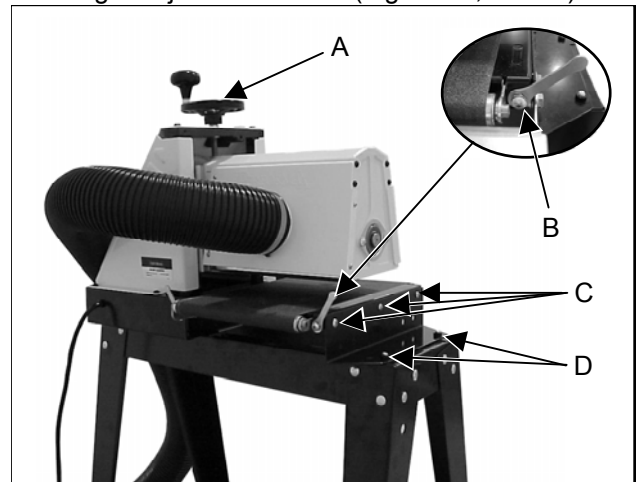

Figure 19
2. Raise the drum to its highest position using the handwheel (Figure 19, Item A).
3. Remove the belt tension by loosening both take-up nuts (Figure 19, Item B).
4. Unscrew the three screws (Figure 19, Item C) that attach the conveyor to the bracket.
5. Unbolt the two hex head bolts (Figure 19, Item D) that hold the bracket to the bench or stand.